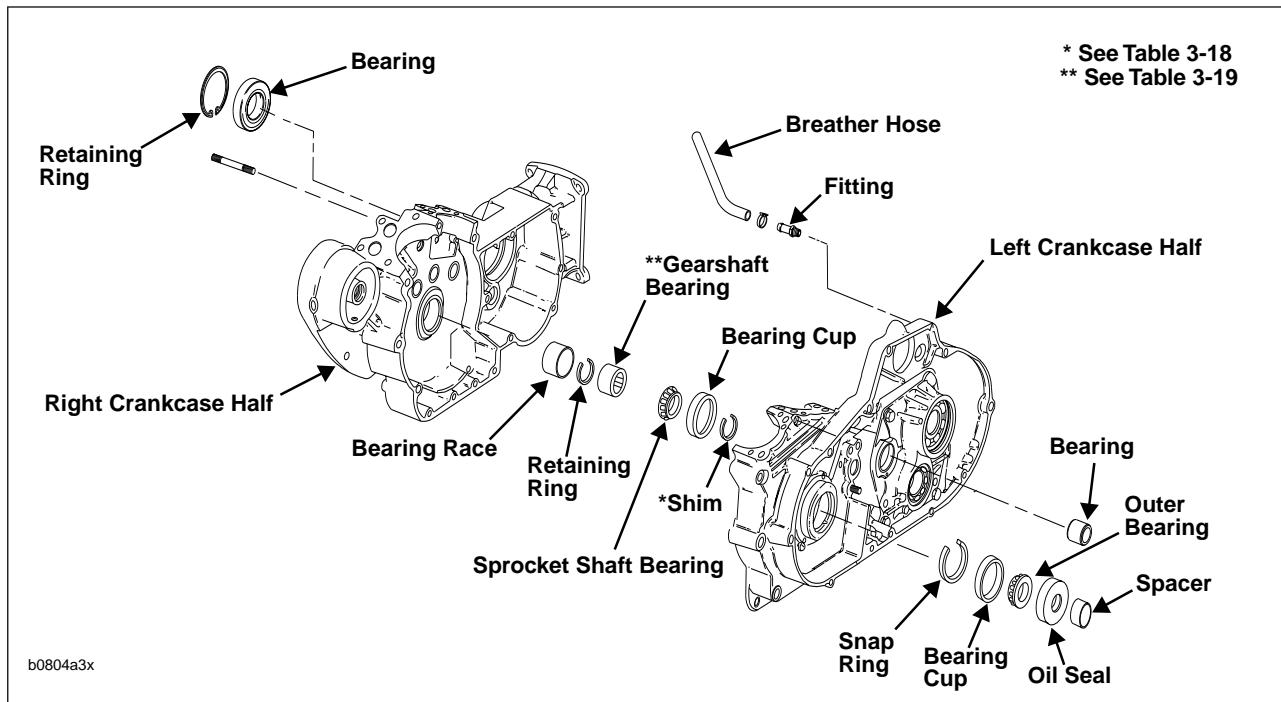

Figure 3-75. Crankcase Assembly
- c. Replace bearing inner shim (See Figure 3-75.) if difference (end play) in indicator readings is not 0.001-0.005 in. (0.025-0.127 mm). Choose shim from Table 3-10.
See Figure 3-75. A pressed-in bushing in the right crankcase half is the outer race. The inner race is pressed on the pinion shaft.